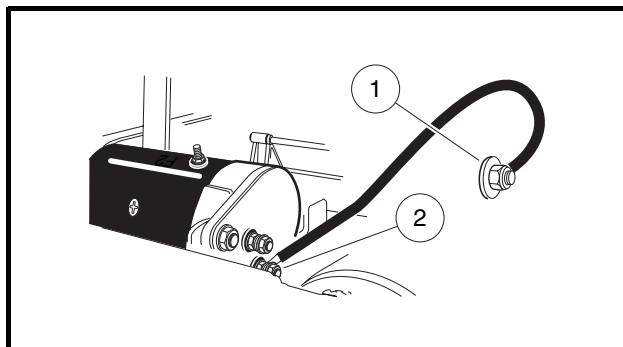

Figure 12-5 Starter/Generator Ground Cable Test
- Set the multimeter to 200 ohms. Place the red (+) probe on the (A2) terminal of the starter/generator and place the black (–) probe on the vehicle frame (**Figure 12-5, Page 12-12**). The reading should be continuity. If the reading is incorrect, clean and tighten cable connections. If the connections are good and the reading is incorrect, repair or replace the cable.